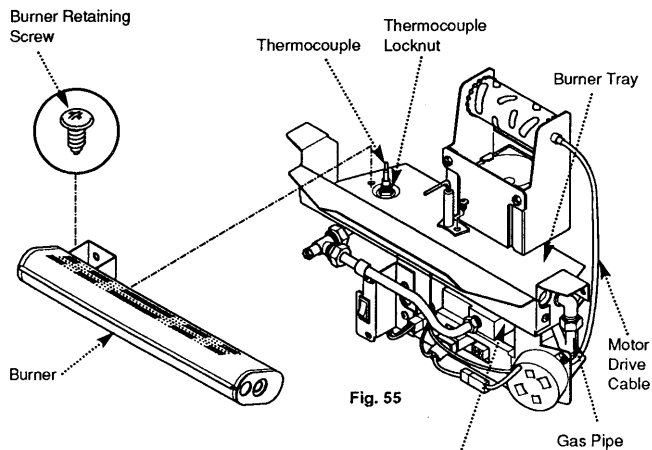

Fig. 55
2. Undo and remove the locknut holding the thermocouple to the burner tray (Fig. 55).